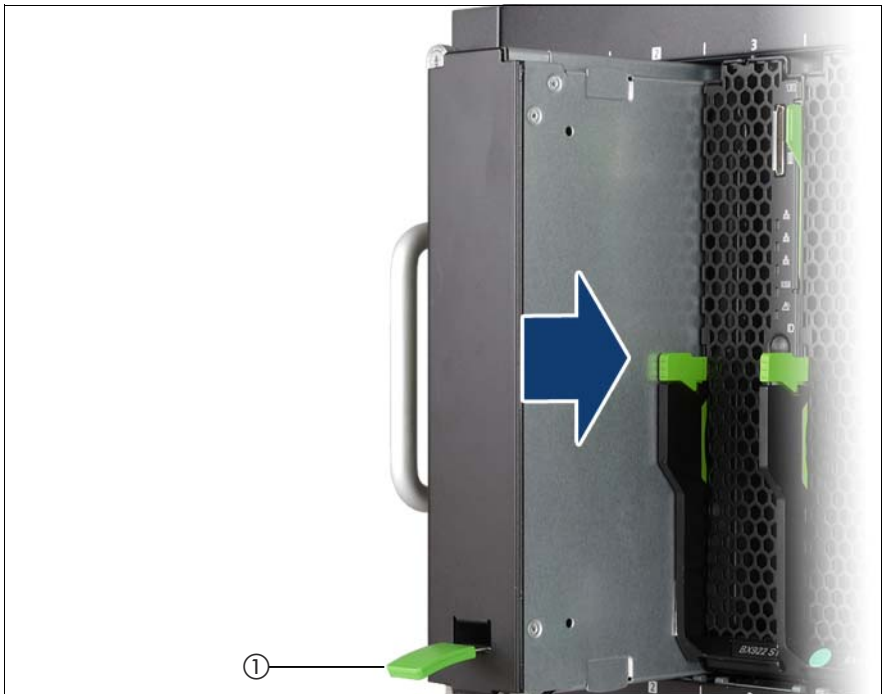

Figure 24: Installing a dummy server blade module
The handle (1) is movable and acts as a release lever. It must be at the bottom when you install the dummy module in the system unit (see figure 24 on page 87).